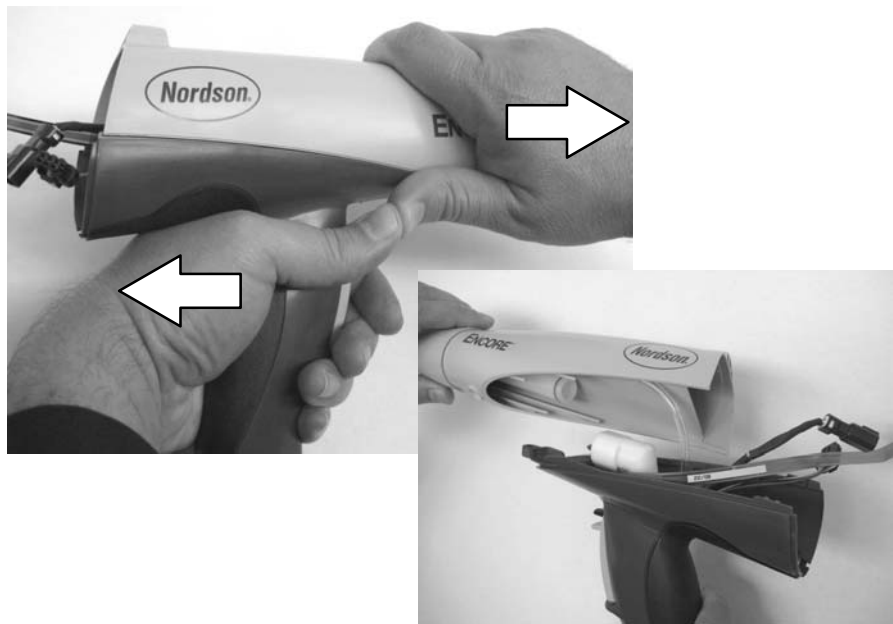

Figure 4 Separating Handle and Gun Body
6. See Figure 4. Grasp the handle in one hand and the gun body in the other. Press the thumbs of each hand together while pulling in opposite directions to separate the gun body from the handle.